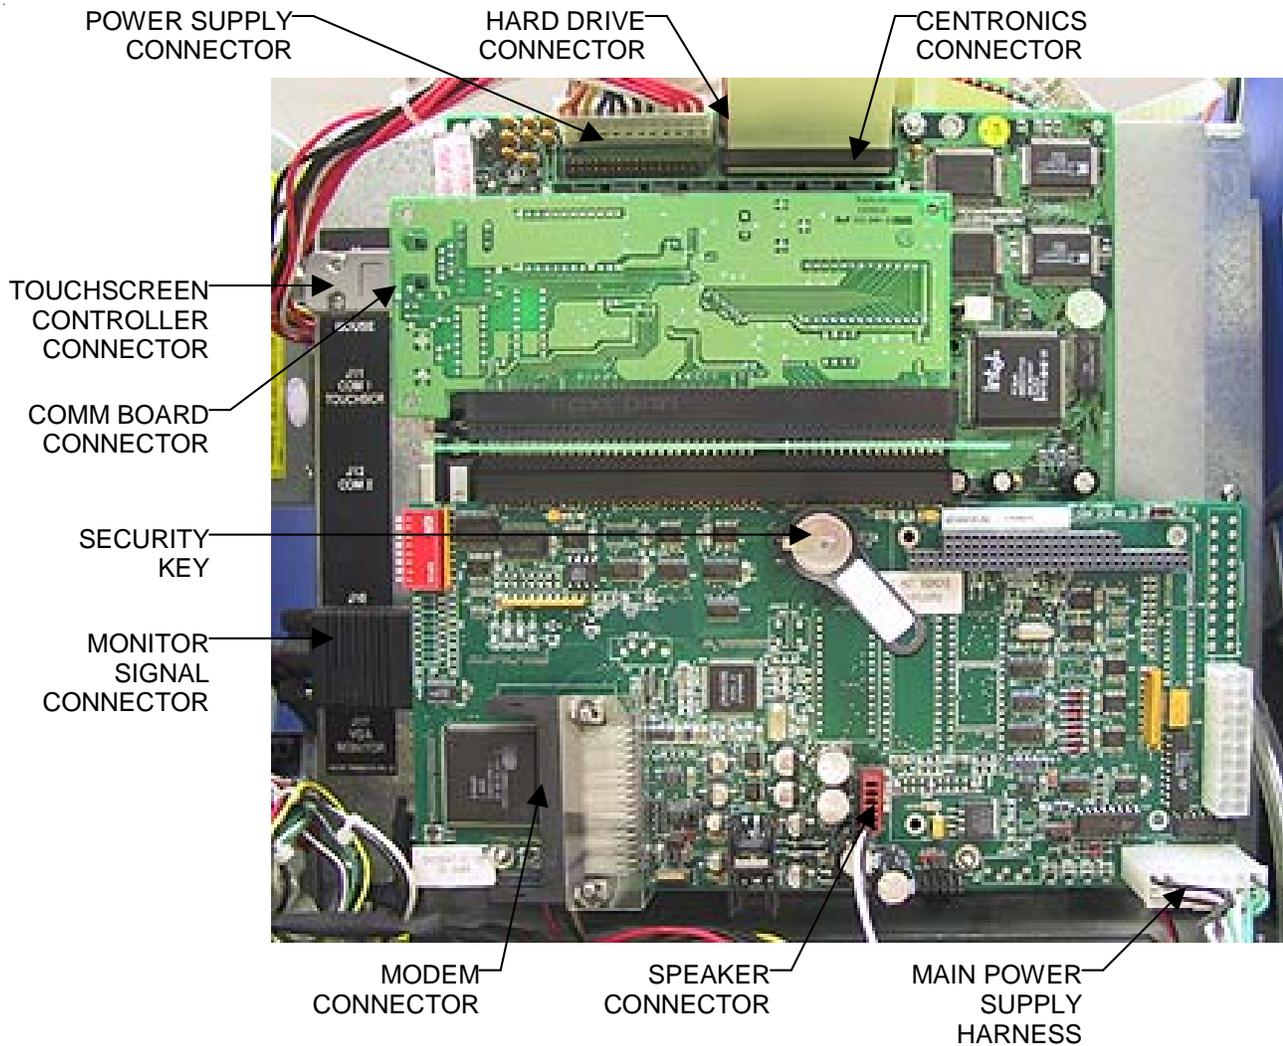

FIGURE 2 - TELCO MOTHERBOARD
4. Remove the 6 screws (3 per side, see Figure 2) fastening the electronics box to the game chassis, then slide the box towards you and disconnect all necessary harnesses until you can completely remove the box and access the hard drive. Remember which harnesses were disconnected.